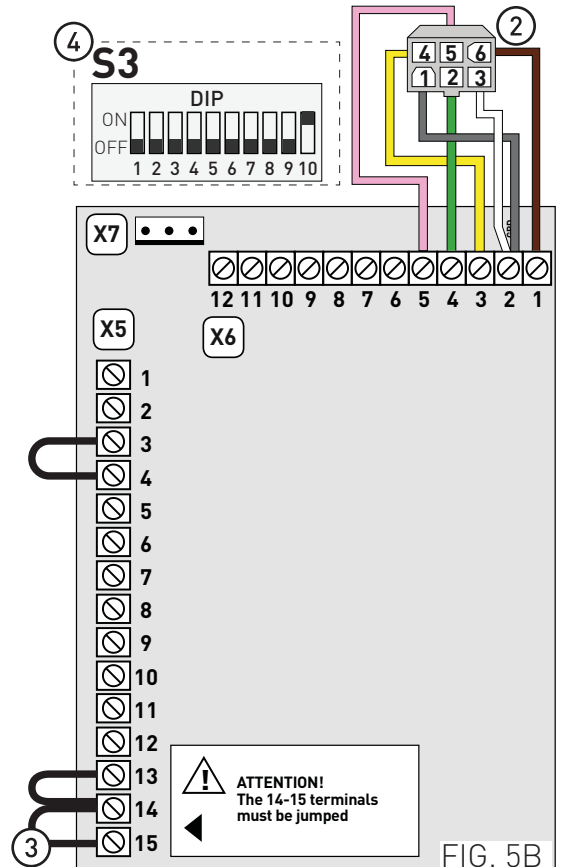

FIG. 5B
- ② peel the 3 wires and connect them as showed in Fig. 5B;
- ③ jumped 14-15 terminals;
- ④ set DIP10 to ON.